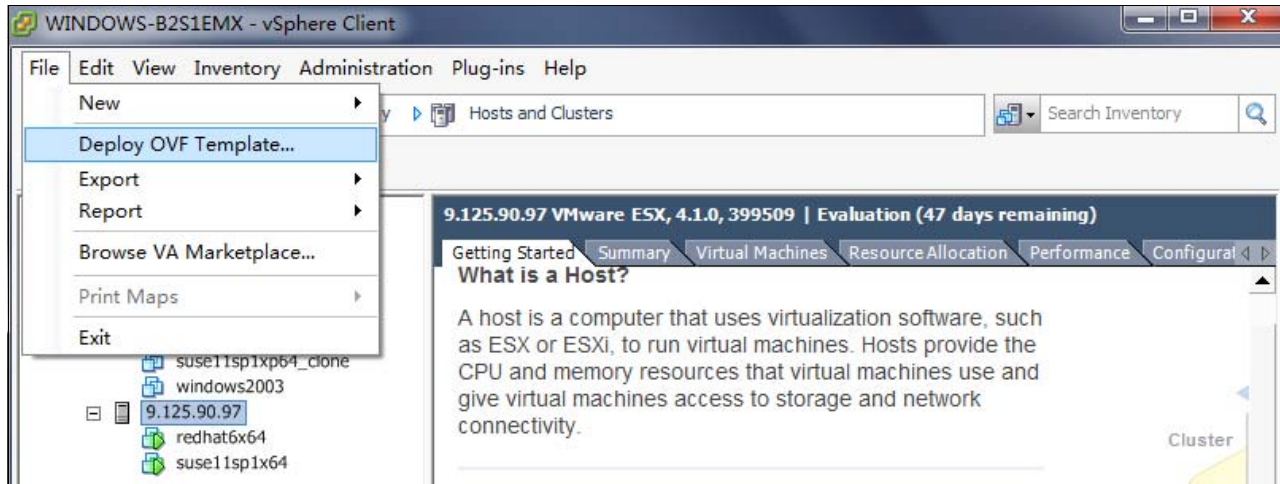

Figure 3-31 Deploy OVF Template
15. Use the vCenter Console and click **File** → **Deploy OVF Template**, as shown in Figure 3-31.